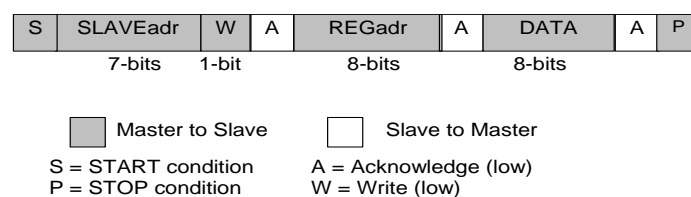
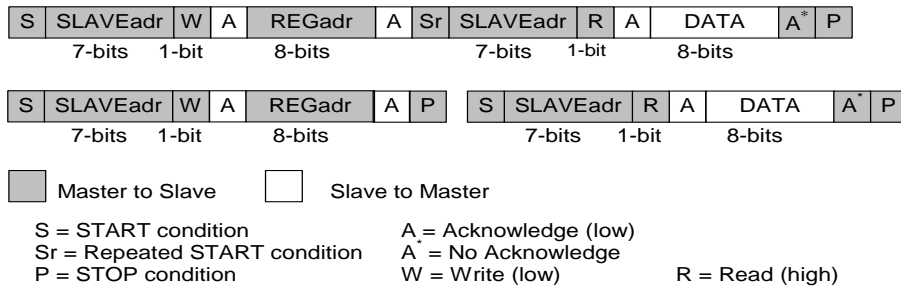

Figure 13: I²C Byte Write (SDA Line)
Figure 14: I²C Byte Read (SDA Line) Examples
The I²C bus is monitored for a valid slave address whenever the interface is enabled. It responds immediately when it receives its own slave address. The acknowledge is done by pulling the SDA line low during the following clock cycle (white blocks marked with A in Figure 13 and Figure 14).
The protocol for a register write from master to slave consists of a START condition, a slave address with read/write bit, and the eight-bit register address followed by eight bits of data, terminated by a STOP condition. DA9130 responds to all bytes with acknowledge (A), see Figure 13.
When the host reads data from a register it first has to write to DA9130 with the target register address and then read from DA9130 with a repeated START, or alternatively a second START, condition. After receiving the data, the host sends no acknowledge (A*) and terminates the transmission with a STOP condition, see Figure 14.